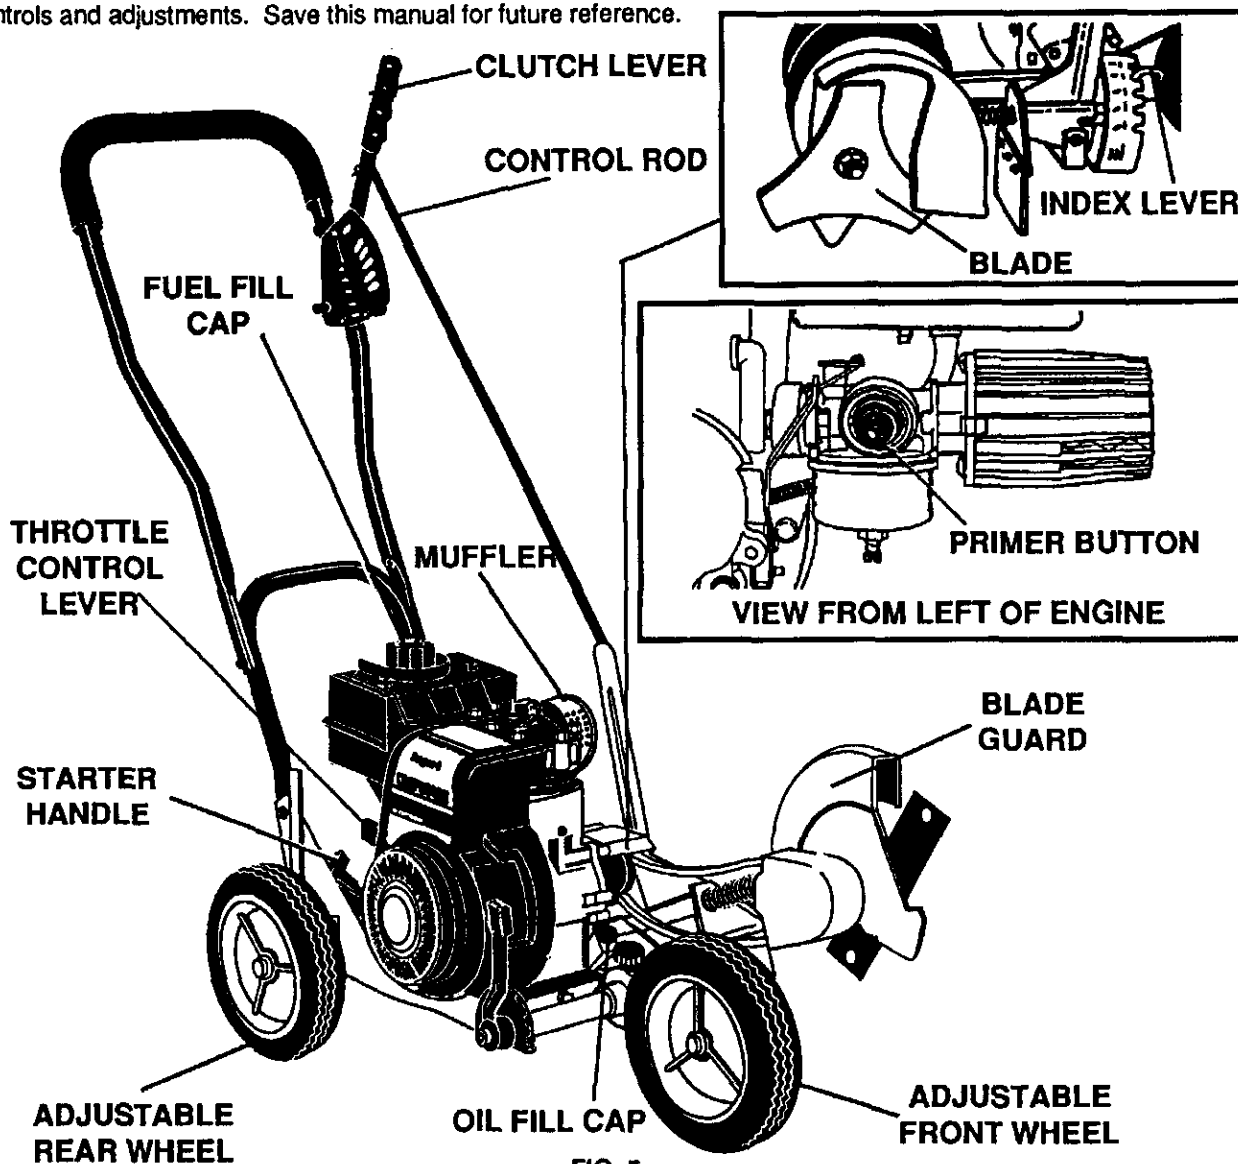
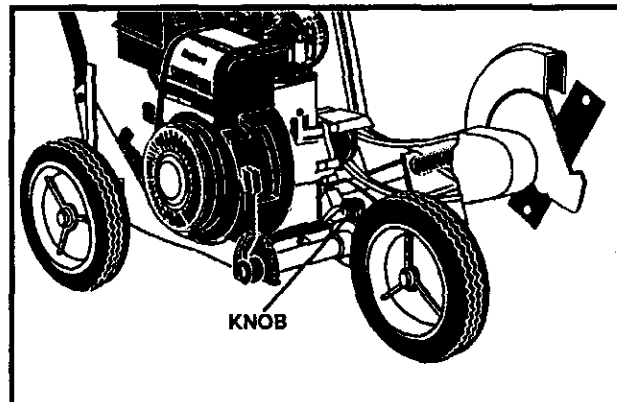

FIG. 5
FIG. 6
- Push primer button five (5) times (see Fig. 5). Wait about two (2) seconds between each push.
- Loosen the knob (See Fig. 6) on the front wheel arm and slide the wheel all the way to the right side.
- Move the clutch lever into all six (6) positions in the selector plate. Make sure the clutch lever snaps into all six (6) holes. (Fig. 5)
- Move the throttle control lever (See Fig. 5) to the RUN position.
**NOTE:** If engine fails to start after three (3) pulls, push primer button two (2) times and pull starter rope again.
**WARNING - AVOID THE MUFFLER AND SURROUNDING AREAS (SEE FIG. 6). TEMPERATURES MAY EXCEED 150° F.**